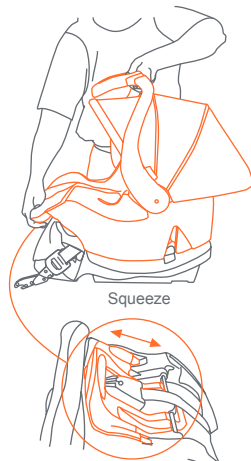

Fig. 24-1
- To remove the car seat from the base, squeeze the Base Release handle, located below the foot end of the Safety Seat, to release the Safety Seat from the Base. Please see Fig. 24-1.